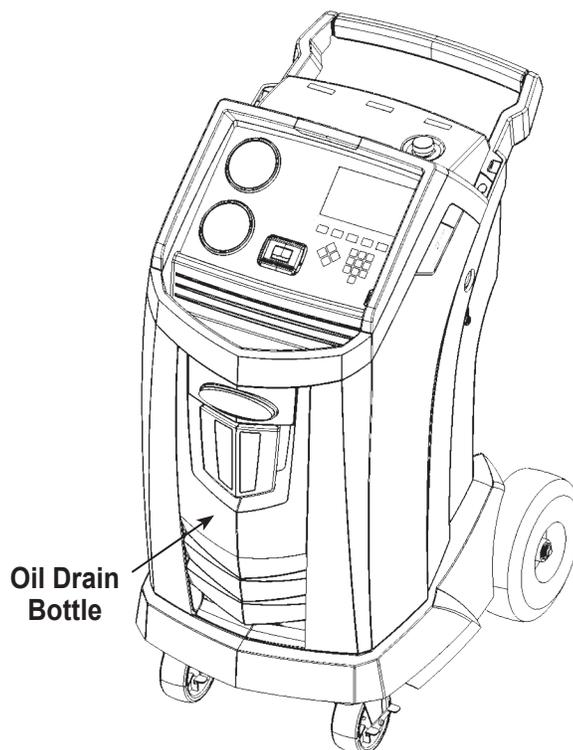

Figure 2
1. Empty the oil drain bottle before starting a recovery. Remove the oil drain bottle from the machine by pulling the bottle straight down—do not use a twisting or rocking motion. Reinstall the oil drain bottle. Refer to Figure 2.